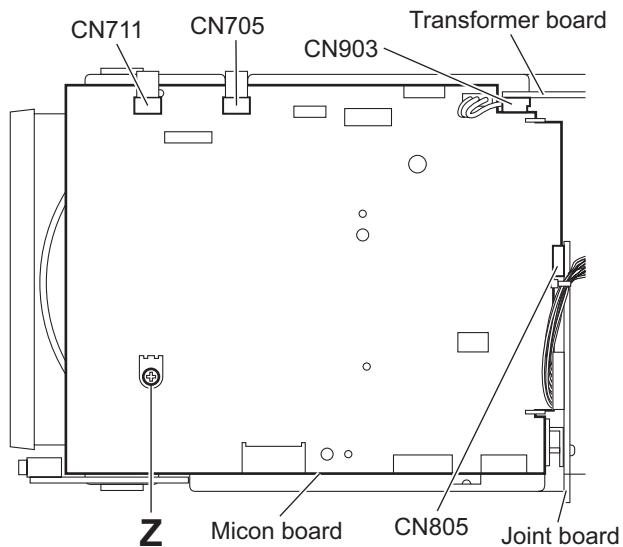

Fig.20
- Disconnect the wire from the connector CN903 on the transformer board. (See Fig.20.)
- Disconnect the card wires from the connectors (CN705 and CN711) on the micon board. (See Fig.20.)
- Remove the screw **Z** attaching the micon board. (See Fig.20.)
- Disconnect the micon board from the connector CN805 on the joint board. (See Fig.20.)